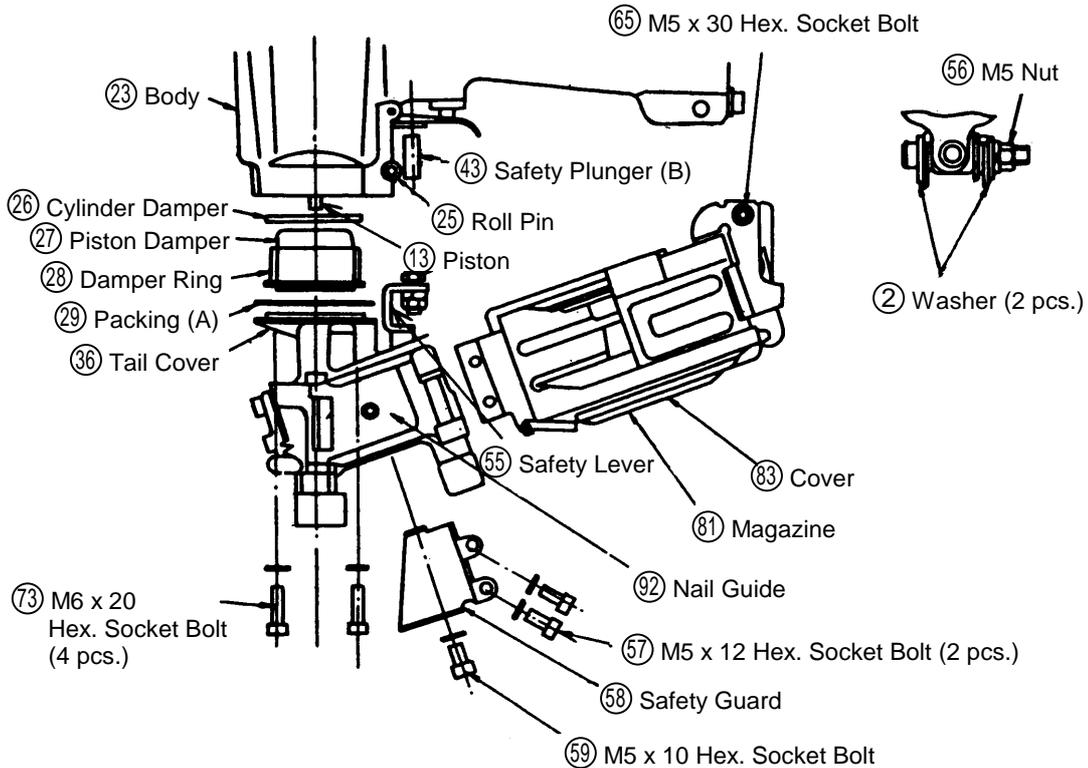

Fig. 9 Piston damper, Packing (A)-disassembly/reassembly
(1) Disassembly:
- By removing the ϕ 3 x 30 Roll Pin (25), taking out the M5 x 30 Hexagon Socket Hd. Bolt (65) retaining the Magazine (81), the four M6 x 20 Hexagon Socket Hd.
Bolts (73), retaining the Tail Cover (36), the Piston Damper (27), Damper Ring (28), Cylinder Damper (26), and Packing (A) (29), can be removed. (see Fig. 9)